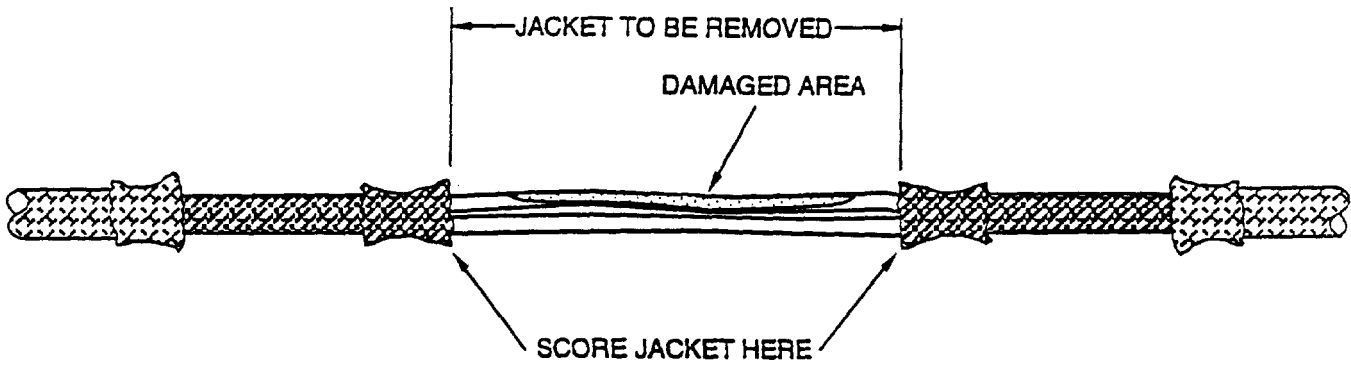

Figure 40. Shield Jacket Removal
e. Using sharp knife, carefully score cable shield jacket around cable diameter and along area to be removed (Figure 40).